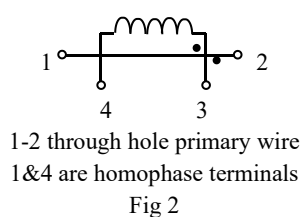

Fig 2
- ② The coil diagram is shown in Figure 2 :